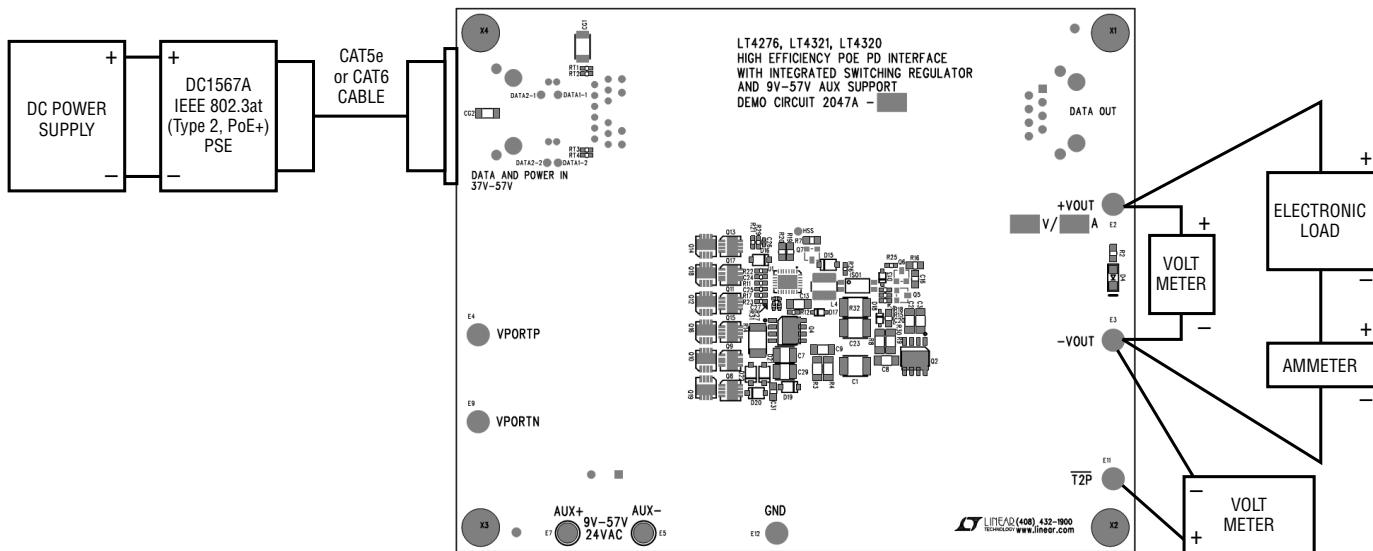

Figure 7. Setup Diagram for PoE Input
2. Place and connect test equipment (voltmeter, ammeter, oscilloscope, and electronic load) as shown in Figure 7.
8. Verify  $\overline{T2P}$  response with a voltmeter as shown in Figure 7. The  $\overline{T2P}$  response to the type of PSE connected to the DC2047A-A is provided in Table 1.